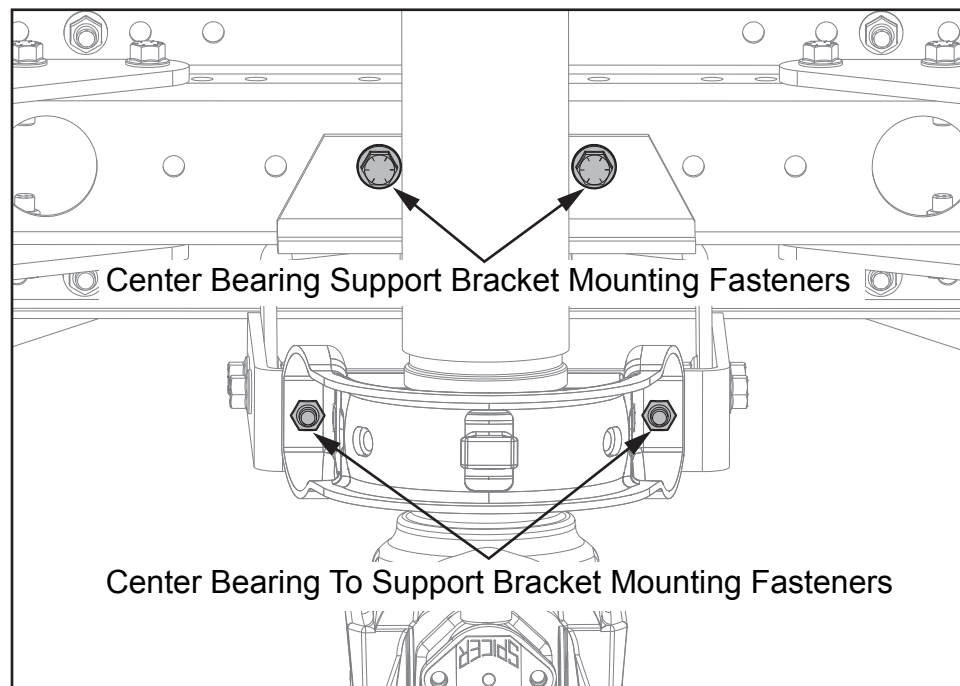

Figure 3, ACX vehicles with steel cross members
5. For ACX vehicles equipped with steel cross members. Locate the 2 center bearing support bracket mounting fasteners and tighten to 90 Lbs-ft of torque and locate the 2 center bearing to support bracket mounting fasteners and tighten to 59 Lbs-ft of torque (see Figure 3).